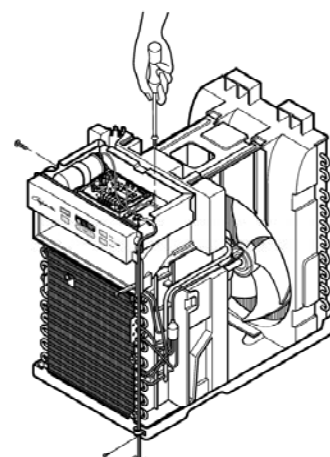

Figure 3
4. Put the Support Bracket against the outside wall and tighten the Bolts on top of the Bracket. Adjust the Leveling Bolt so that the air conditioner will be installed with a very slight tilt (about 1/4") downward toward the outside for proper drainage. Tighten the nut. (Fig. 3)
3. Remove the 1 screw which fasten the power cord. (See Figure 3)
5. Remove the 2 screws which fasten the control box.(See Figure 3)